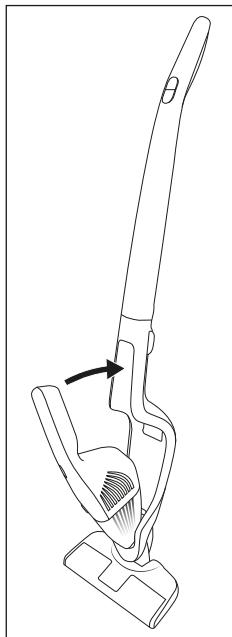
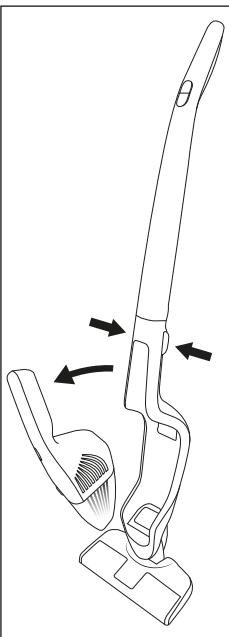

Fig. 2
Fig. 3
- 1) To connect the hand element ③ to the handle rod ⑩, push the tip of the hand element ③ into the opening in the hand element recess ⑬.
- 2) Then press the grip ① of the hand element ③ into the handle rod ⑩ until the hand element ③ clicks firmly into place (Fig. 2).
- 3) To remove the hand element ③ from the handle rod ⑩, press both release buttons ⑫.
- 4) Then pull the hand element ③ upwards and forwards out of the hand element recess ⑬ (Fig. 3).